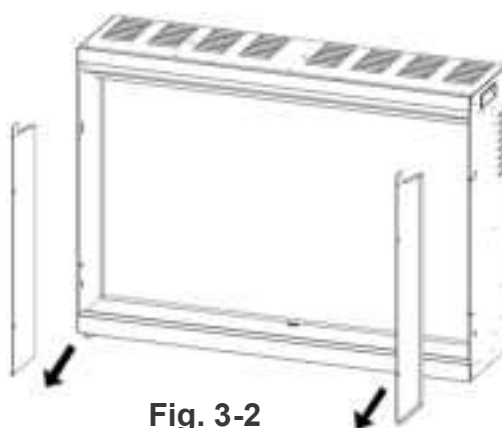

Fig. 3-2
- B. Carefully take the interior walls away from the appliance. Place them face down on a soft, nonabrasive surface. (Fig. 3-2)